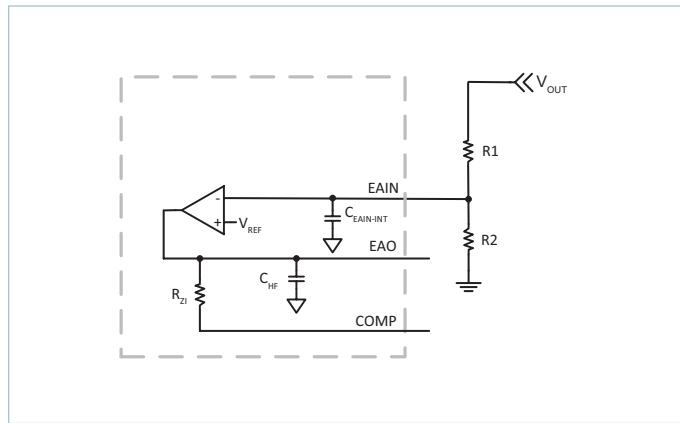

Figure 87 — External resistor divider network
The PI352x-00 family of Buck Regulators utilizes  $V_{REF}$ , an internal reference for regulating the output voltage. The output voltage setting is accomplished using external resistors as shown in Figure 87. Select  $R_2$  to be at or around  $1k\Omega$  for best noise immunity. Use Equations (2) and (3) to determine the proper value based on the desired output voltage.